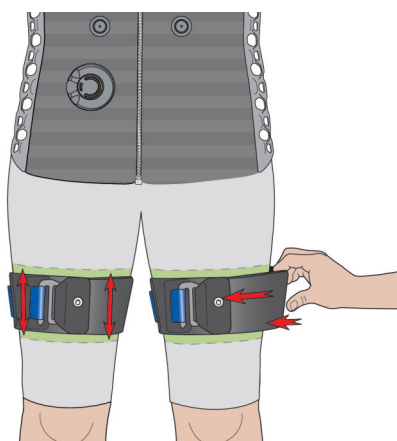

Fig. 46: Positioning the i-body® strap flex
16. ➤ Turn the i-body® strap flex so that the pushbutton faces forwards (Fig. 46).